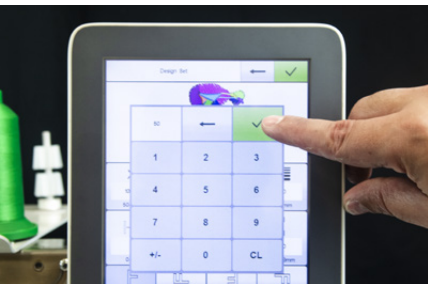

Figure 83
2. Once you select this option, a numbered keypad will appear. Input the desired degrees in which you would like to position your design, and select the green check mark on the top right of the keypad. **See Figure 83.**